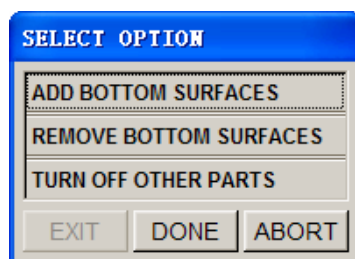

Figure5.2.17 Select Option dialog box
3. User can click GROUP TOP SURFACE to group all top surfaces as illustrated in Figure 5.2.17.
The grouped surfaces are highlighted, while the SELECT OPTION dialog box as illustrated in Figure 5.2.17, is displayed.